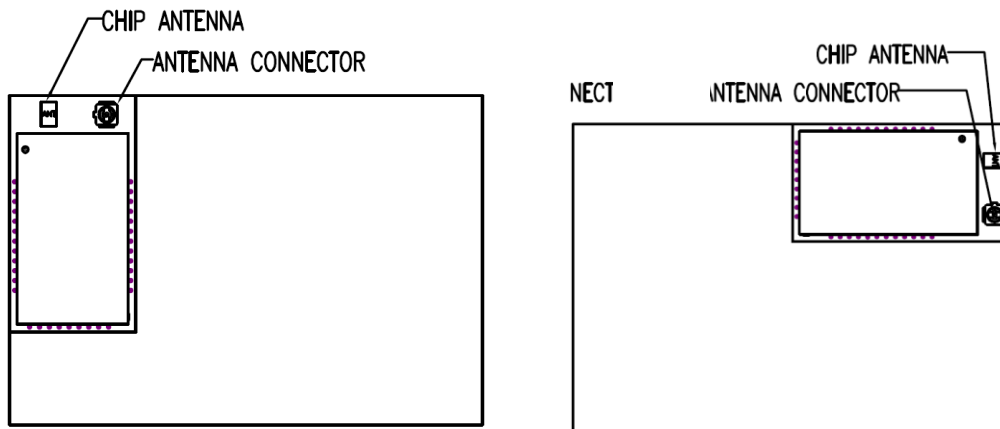
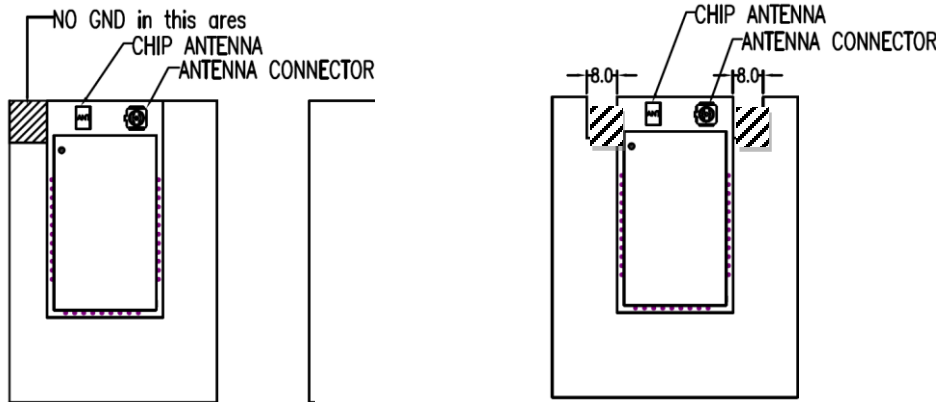

Figure 3: BT730-SA placement in the corner of host PCB.
Figure 4: BT730-SA placement in the edge (not corner) of host PCB (with modified antenna keep-out).
- For best antenna performance, place the BT730-SA module on the edge of the host PCB, preferably in the corner with the antenna facing the corner. An example shown in Figure 3.
- The antenna-keep-out defined in *PCB Land Pattern and Antenna Keep-out area for BT730-SA* applies when the BT730-SA is placed in the corner of the host PCB. When BT730-SA cannot be placed as such, it must be placed on the edge of the host PCB and a modified antenna keep out must be observed. This antenna keep-out modification is shown in Figure 4 (antenna keep-out is extended by 8 mm on both sides).
2. For BT730-SA (with on-board chip antenna) best antenna performance, the module BT730-SA *must* be placed on the edge of the host PCB and preferably in the corner with the antenna facing the corner (see *Figure 3* in section 5.3.1). The module is placed in the corner of host PCB above the keep-out area. If the BT730-SA is not placed in corner but on edge of host PCB, the antenna keep-out area must be modified (see *Figure 4* in section 5.3.1).